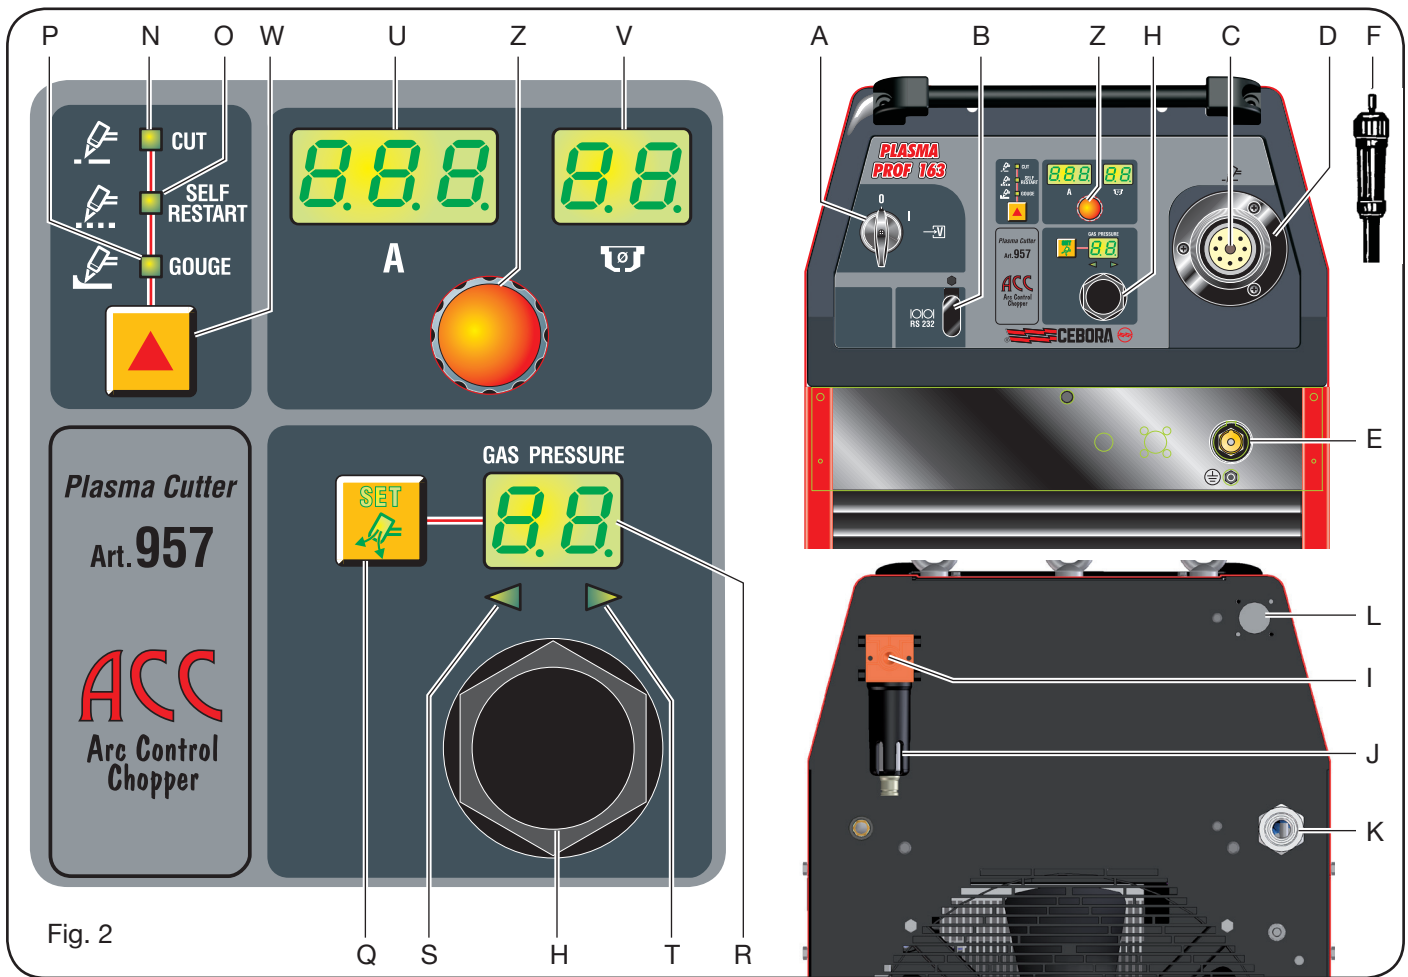

Fig. 2
### 2.2 DESCRIPTION OF THE EQUIPMENT (fig. 2)
b) In case of a plug connection use a plug complying with the plate specifications. In this case the plug must be used to completely disconnect the machine from the mains, after setting the switch **A** to "O" (fig. 2).
In the following descriptions, we refer to Fig.2.